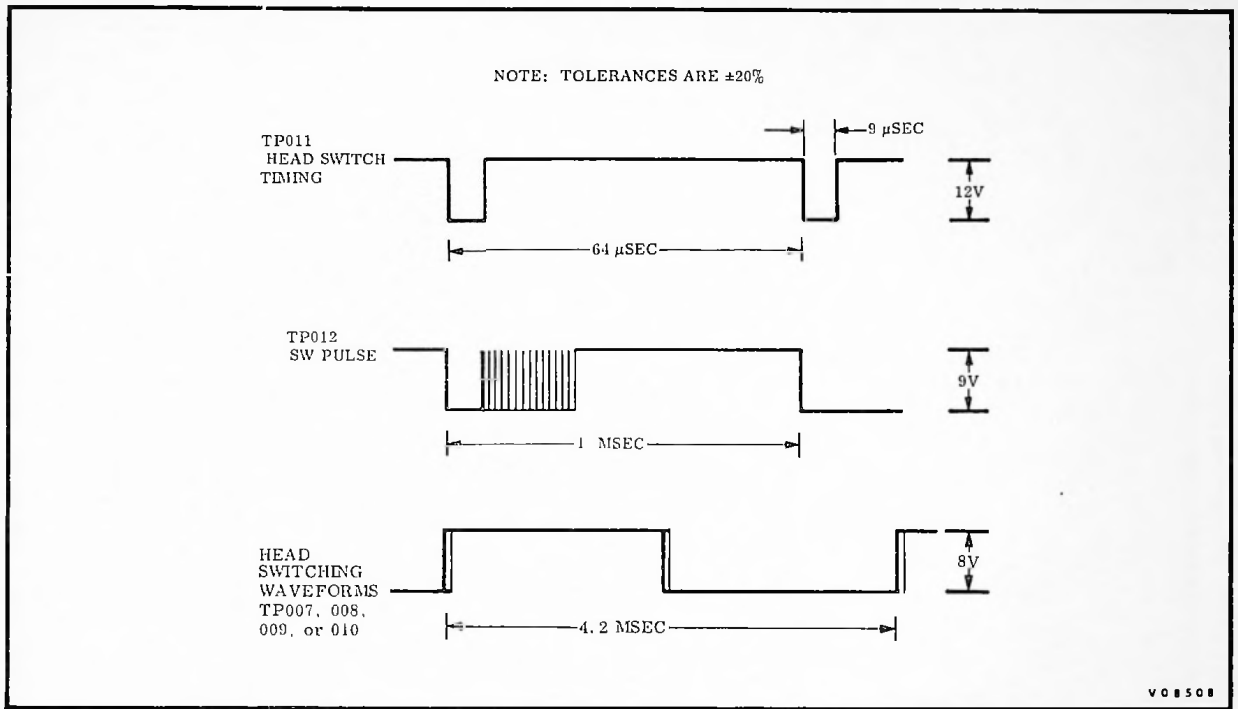

Figure 5.2-1. Input Timing Signal Waveshapes
- e. Connect the probe successively to each of the system test points indicated in Figure 5.2-1. If no signals are observed at any test point, or if signals are observed but are out of tolerance, refer to the maintenance manual for the VR-1200.